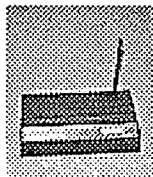

Fig. 3.4 UHF Receiver
3.4 UHF receiver. This is a receiver that receives the signal from the stacked Yagi antenna and translates it down to the frequency of TV channel 3 or 4 (in the range of 60-72 MHz). It is also a purchased unit manufactured by Universal Security Inc. This receiver is shown in Fig. 3.4